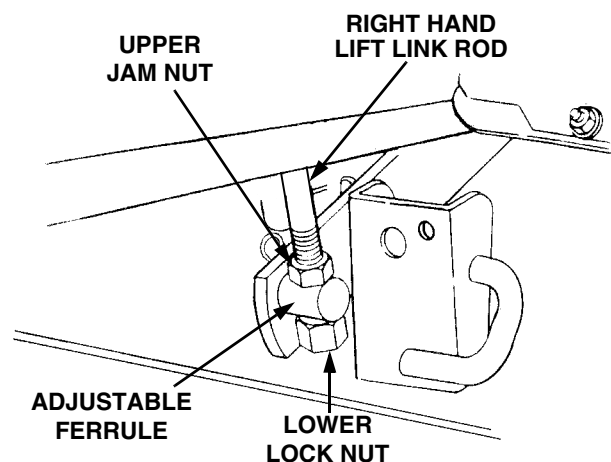

Figure 49
6. Side-to-side leveling is obtained utilizing the adjustment ferrule and right hand lift link rod (Refer to Figure 49).
7. Loosen the upper jam nut on the lift link rod and turn away from the adjustment ferrule. Turn the lower lock nut upward (tighten) on the threads of the rod to raise the right side of the mower deck. Turn the lock nut down (loosen) on the threads to lower the right side of the mower deck (See Figure 49).